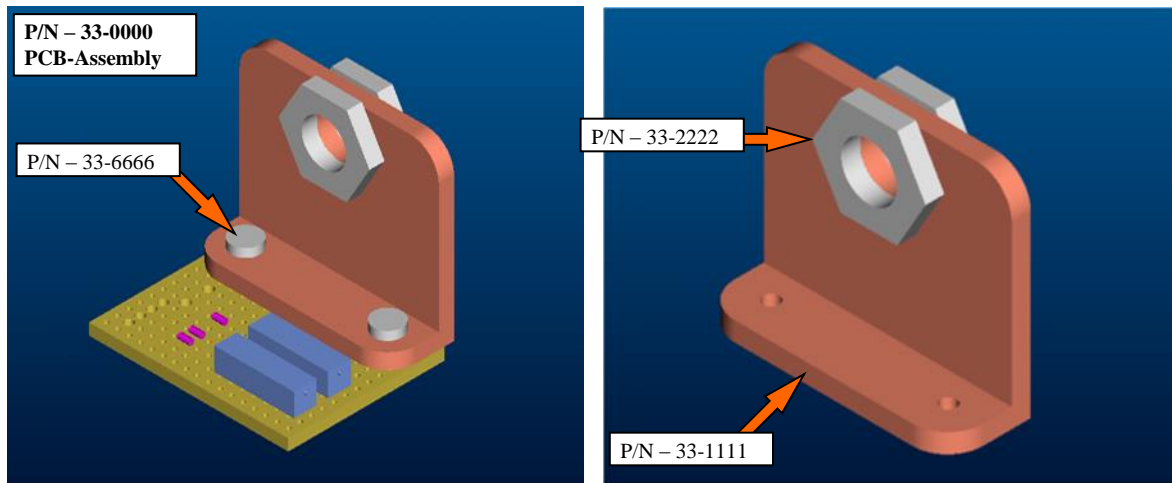
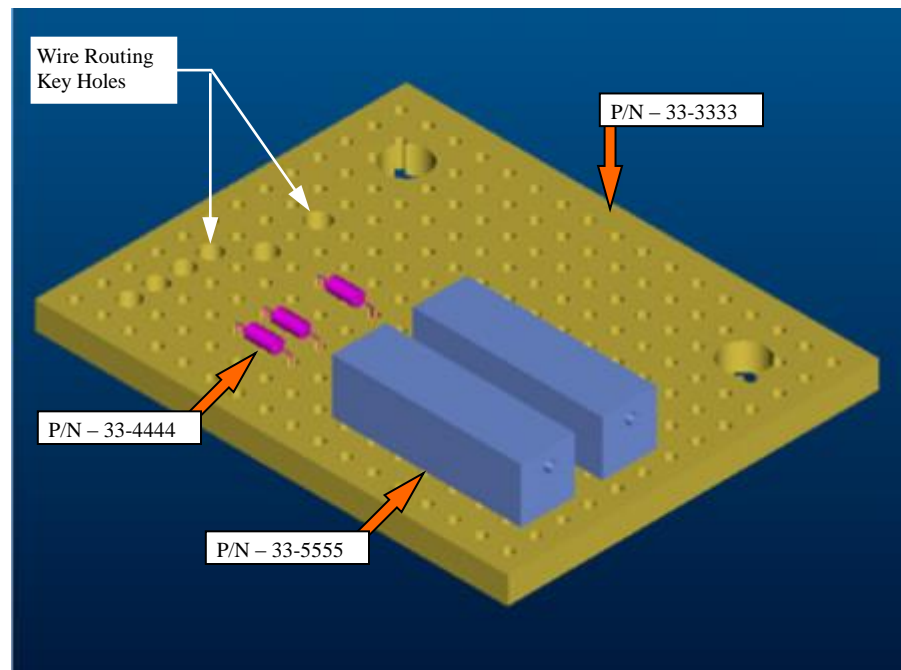

Figure 4: PCB Board Assembly
Figure 5: PCB Board Assembly
9.3 Bracket & PCB Assembly (PCB, 33-0000) (Refer to Figure 4 & Figure 5):
NOTE: Refer to Figure 4 & Figure 5, for the proper positioning of the components. Proper positioning of the component is very important for the Final Assembly